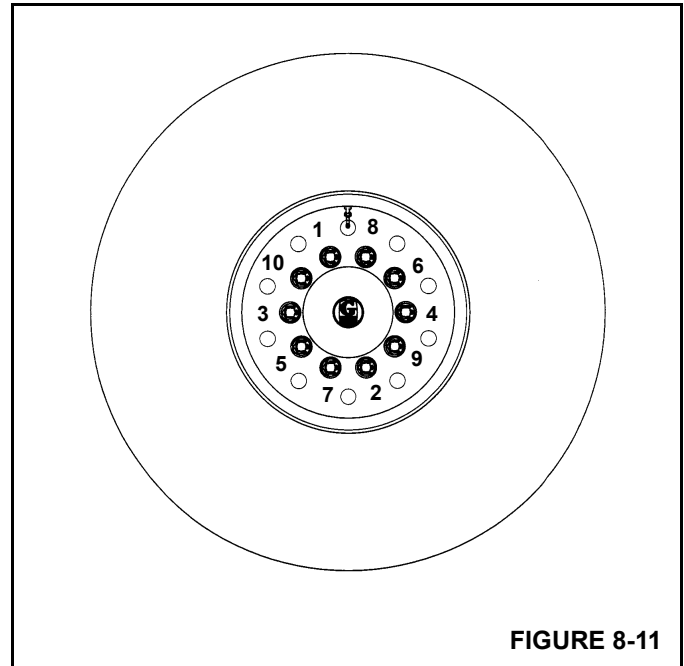

FIGURE 8-11
3. Torque the lug nuts 610 to 678 Nm (450 to 500 lb-ft) in the sequence shown in Figure 8-11.